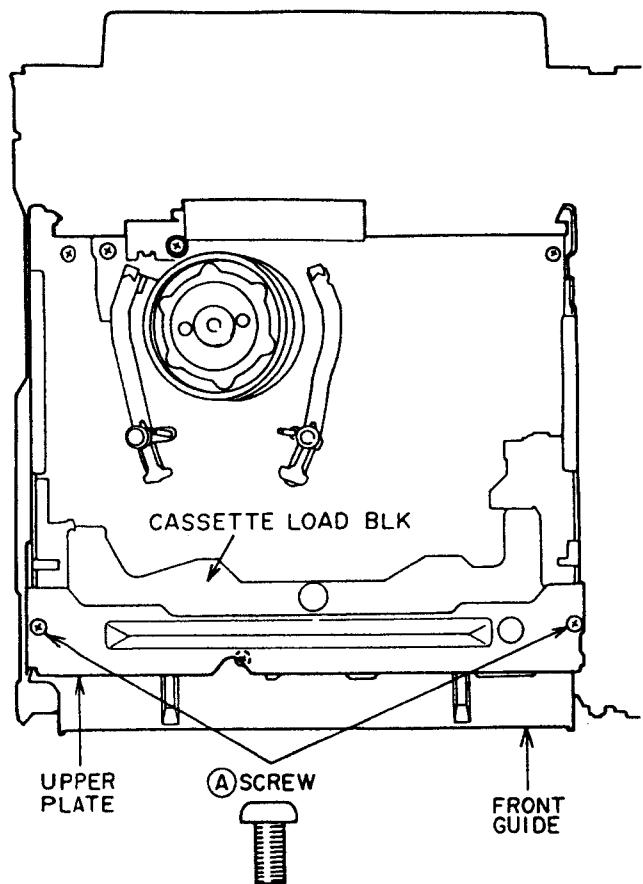

Fig. 3-1
- 1) Remove the two Ⓐ screws on the UPPER PLATE, as shown in Fig. 3-1 then remove the UPPER PLATE.